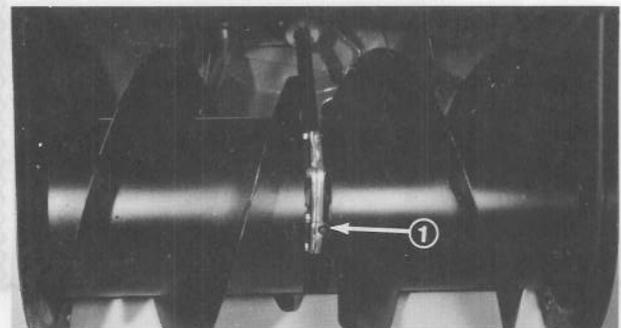

Figure 35
1. Remove pipe plug (Fig. 35).